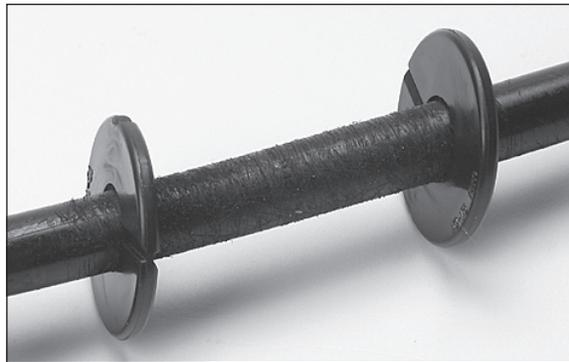

Figure 7
- 3.7 Split washers and place onto cable on either side of the area marked for tape collar build up, as shown in Figure 7.